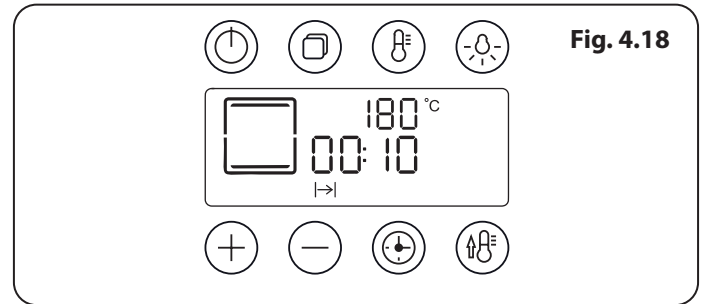
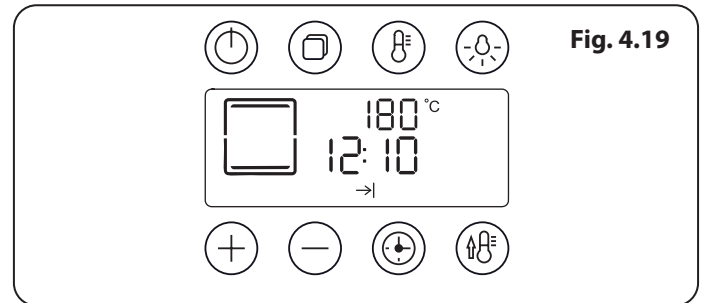

Fig. 4.18
Fig. 4.19
- The oven will enter Standby Mode after 3 seconds, the display will show the 'cook period' (Fig. 4.18) and the 'stop time' (Fig. 4.19). Changing the cooking function will clear the selection.
Note: Fig. 4.18 and Fig. 4.19 show conventional heat function for illustration. All other modes are available.